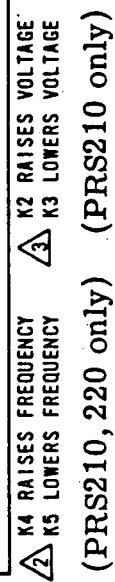

FIGURE 2-2: INTERCONNECTION DIAGRAM
2.3.1 The auto-synchronizer must be connected as shown in the interconnection diagram, Figure 2-2. Care must be taken to insure proper connection of the auto-synchronizer, especially important to watch polarity of step down transformers utilized with the synchronizer since the synchronizer operation is based on the signals presented to it. These signals must accurately reflect proper generator line condition. PHASE ROTATION MUST BE A-B-C.